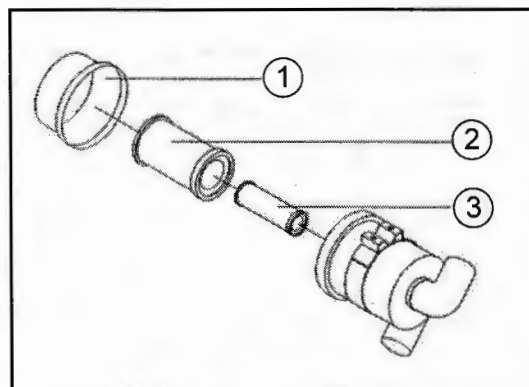

Fig. 28-3 - Dry Type Air Cleaner
Remove the cover (1), take out primary filter element (2) and clean as follows: (See Fig. 28-3).
Safety filter element (3) must be changed if it becomes damaged and at every third service of the air cleaner primary element. Change it at least once a year. (See Fig. 28-3).